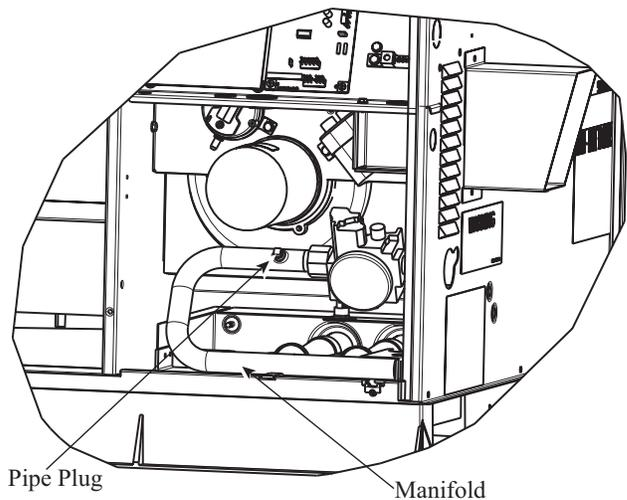

Fig. 11 - Burner Assembly
2. Remove pipe plug on manifold (See Fig. 11) and connect manometer. Turn on gas supply to unit.
6. Turn off gas supply to unit. Remove manometer from pressure tap and replace pipe plug on manifold (see Fig. 11). Turn on gas and check for leaks